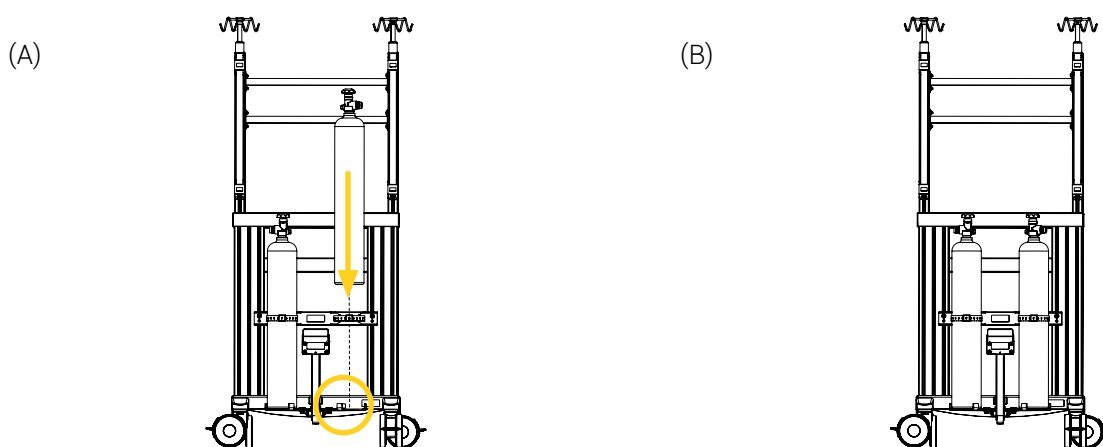

Figure 10 : Installation of the gas cylinder on the mounting bracket
1. Apply the brakes on all four (4) dual wheel swivel casters of the cart.
3. Insert and position the gas cylinder on the bottom plate of the mounting bracket (Figure 10).